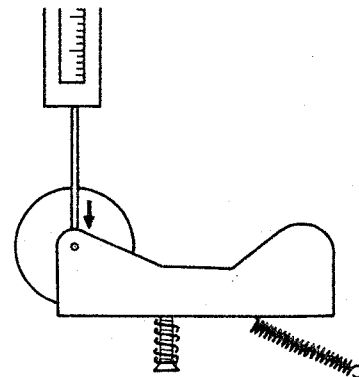

Fig. 5-7
- 3) Put a spring-balance on a measuring position of the Pinch Roller pressure, and adjust it within the range of 380 ± 30 g. (Fig. 5-7) by using the adjusting screw.